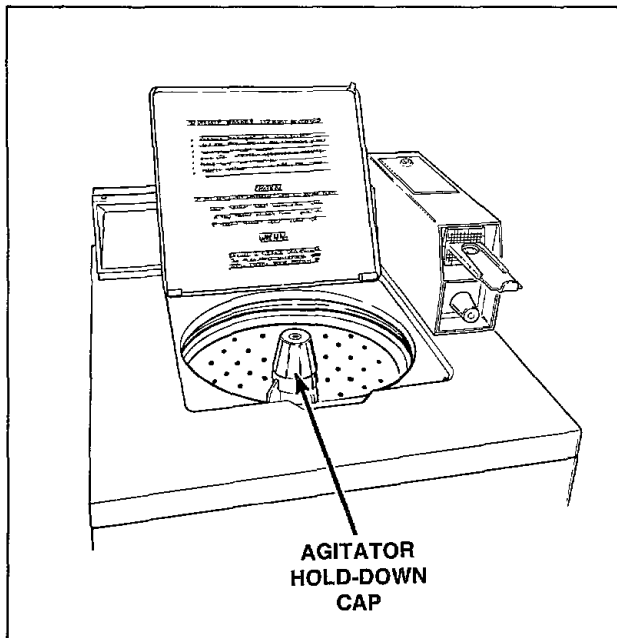

Figure 16
- a. Remove agitator hold-down cap and lift agitator out of washtub, *Figure 16*.